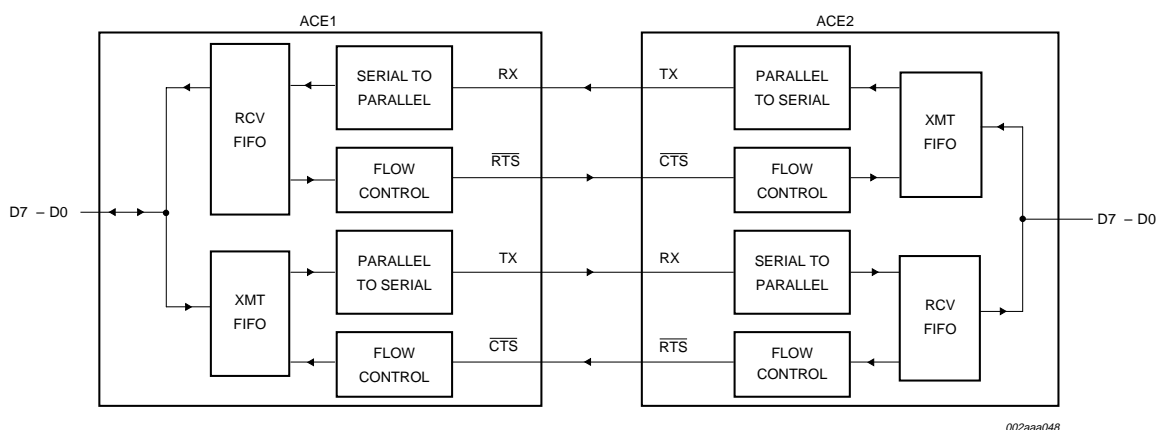

Fig 5. Autoflow control (auto- $\overline{\text{RTS}}$ and auto- $\overline{\text{CTS}}$) example.
6.3 Autoflow control (see Figure 5)
6.3.1 Auto- $\overline{\text{RTS}}$ (see Figure 5)
6.3.2 Auto- $\overline{\text{CTS}}$ (see Figure 5)